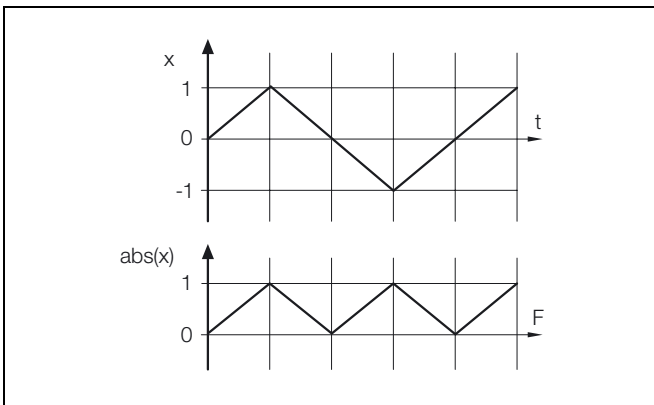

Fig. 2.11 Absolute Value Function
2.9.7 Absolute Value Function – Fig. 2.11
The Absolute Value Function converts any negative value to its positive equivalent – see Fig. 2.11.